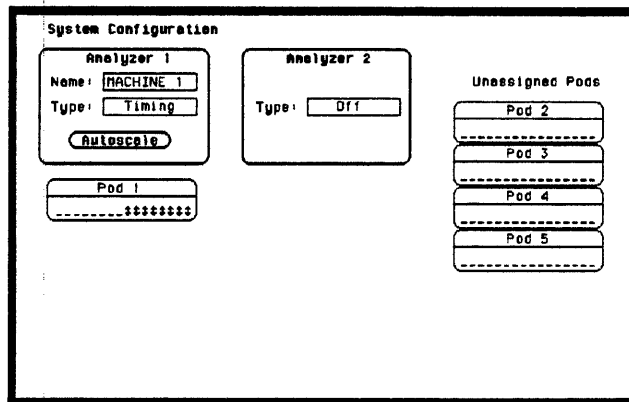

**Figure 3-30. Waveform for Glitch Test**
- Adjust pulse generator for the output in figure 3-30.